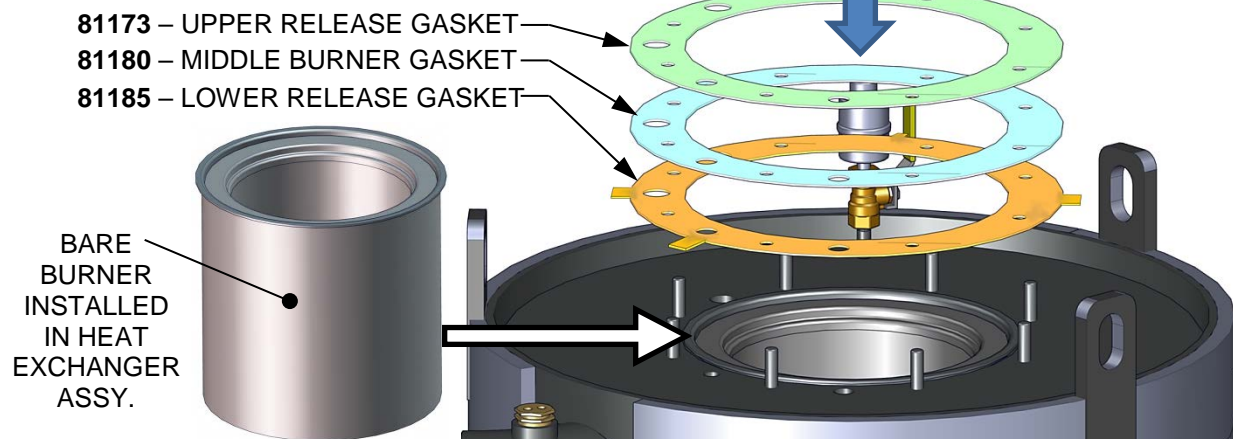

Figure 7-5: Bare Burner and Replacement Gaskets Location
14. Remove and replace the burner gasket(s) (see Figure 7-5).
ALL THREE gaskets provided for maintenance MUST be installed during this procedure, as shown in Figure 7-5, even if there is only one existing gasket being replaced. Note that the LOWER RELEASE GASKET has tabs, which the others do not.